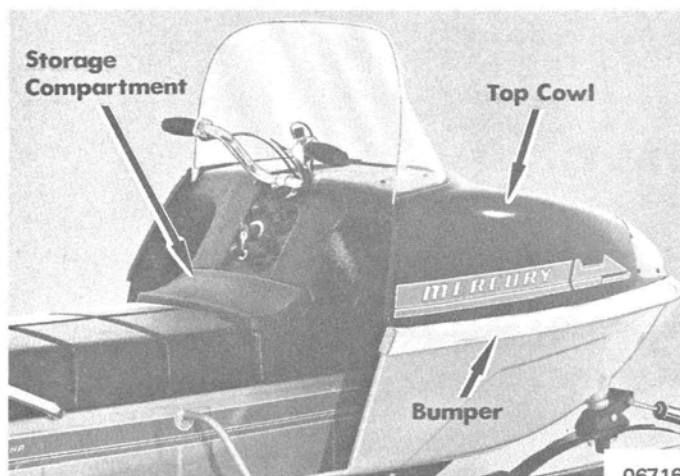

Figure 1. Cowl Location
1. Remove 2 screws from inside of storage compartment. (Figure 1)